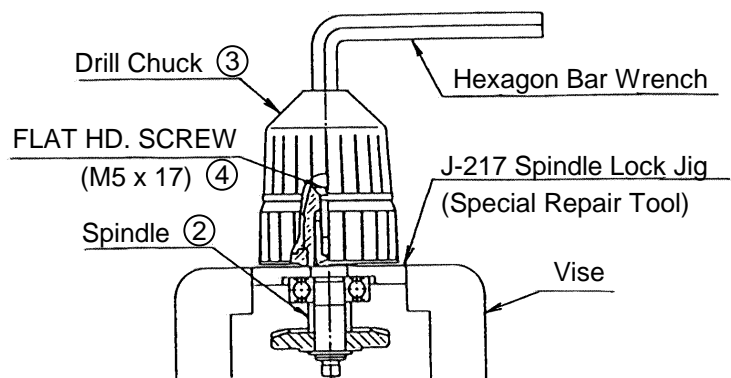

Fig. 1
(c) As illustrated in Fig. 1, fit an M10 hexagon bar wrench into the keyless Drill Chuck ③ and turn it counterclockwise (to the left) to loosen and remove the Drill Chuck.